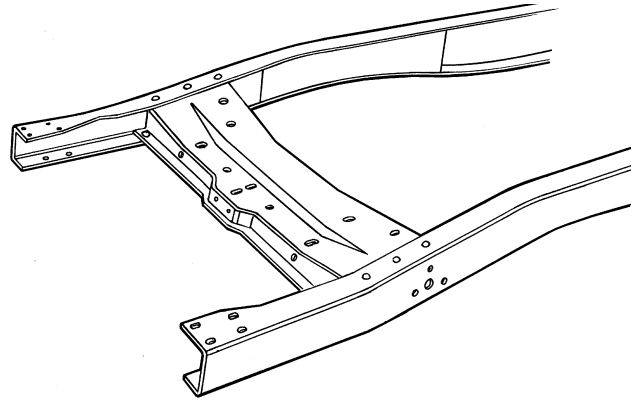

Figure 1
3. Boxing the rails is next. The frame rails should be flattened and made straight and true. The frame rail edges should be ground straight so the boxing plates fit tight to the rail edges. Do not grind too much off the rails. The boxing plates are then clamped and tack welded in place. Weld in short sections at a time in alternating locations to minimize warpage. It is also a good idea to clamp a bar across the rails to hold them in place during welding. Grind smooth when done. Figure 1.